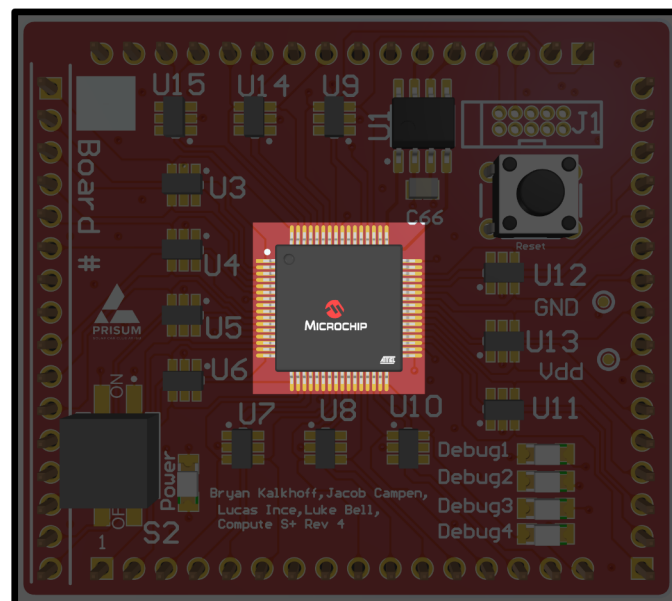

Figure 3: The ATSAMC21J18A Microcontroller
A microcontroller is an integrated circuit (IC) that runs a configurable program that receives input from the physical world by reading the voltage at the pins on the outside of the IC (see highlighted portion of Figure 3) and responds by changing the voltage at those same pins.
The microcontroller in the center of the module (see Figure 3) is an ATSAMC21J18A general-purpose microcontroller produced by Microchip, formerly Atmel Corporation ("ATSAMC21J18A"). This specific microcontroller contains support for many common operations required in the vehicle's operation including support for the CAN protocol. The microcontroller's pins can be used in several different modes, some of the most common modes include General Purpose Input/Output (GPIO) and Analog/Digital Conversion (ADC):